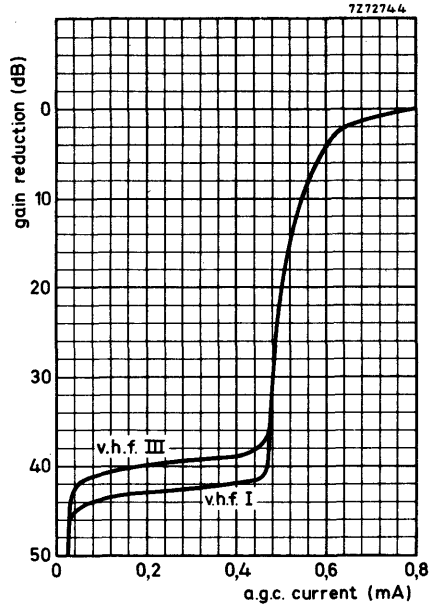

Fig. 7
A.G.C. current (Fig. 7), during gain control